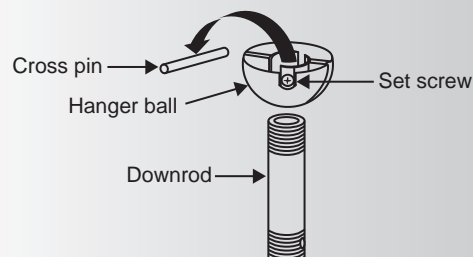

Fig. 7
Step 5. Remove the hanger ball from the downrod assembly by loosening the set screw, removing the cross pin and the ball from the downrod. (Fig. 7)